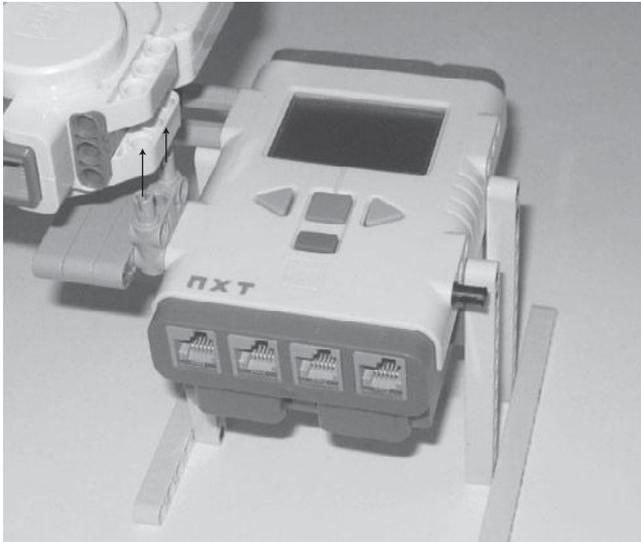

Figure 12.14
Step 1: Attach the servo motor to the 3M pegged block that makes up part of the support platform, as shown in Figure 12.14.